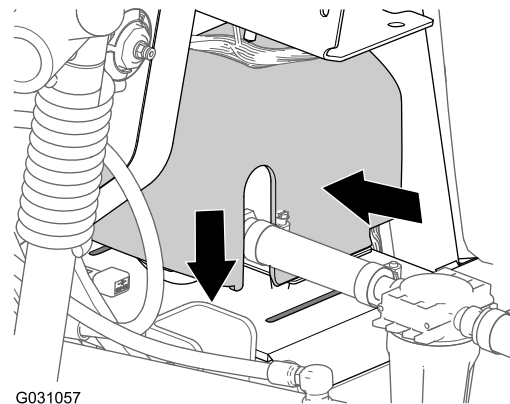

Figure 187
2. Align the rinse-pump cover over saddle plate for the rinse pump (Figure 187).
3. Press together the sides of the rinse-pump cover and align the tabs of the cover with the saddle plate (Figure 187).
4. Insert the tabs into the slots and release the sides of the cover (Figure 187).